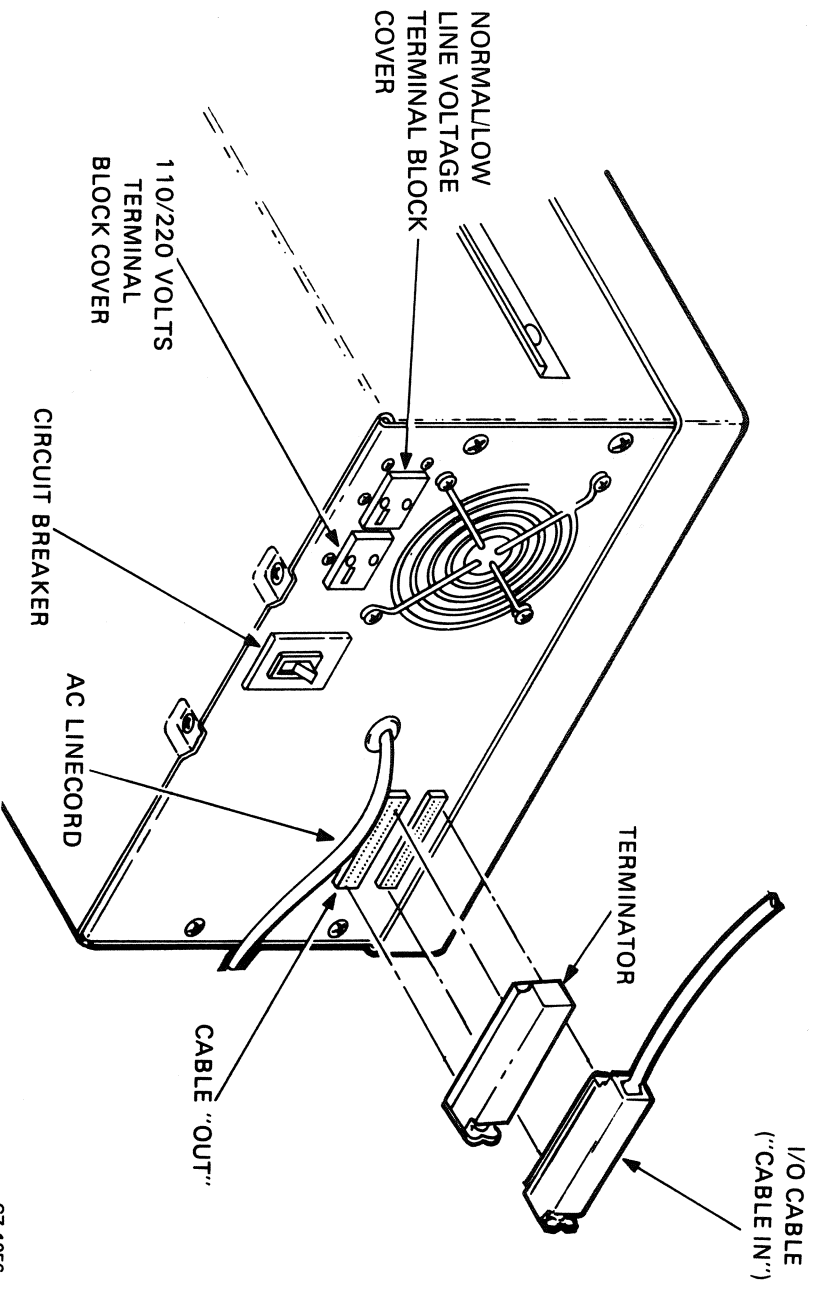

Figure 2-26 RL01/RL02 Disk Drive - Rear View
11. Inspect the terminal block covers at the rear of the drive. Ensure that they are configured properly for the input power available (Figure 2-26).
12. If there is only one disk drive in the system, or if this is the last drive of the daisy chain, install a terminator assembly (DIGITAL part no. 70-12293) in the "cable out" location at the rear of the drive (Figure 2-26).